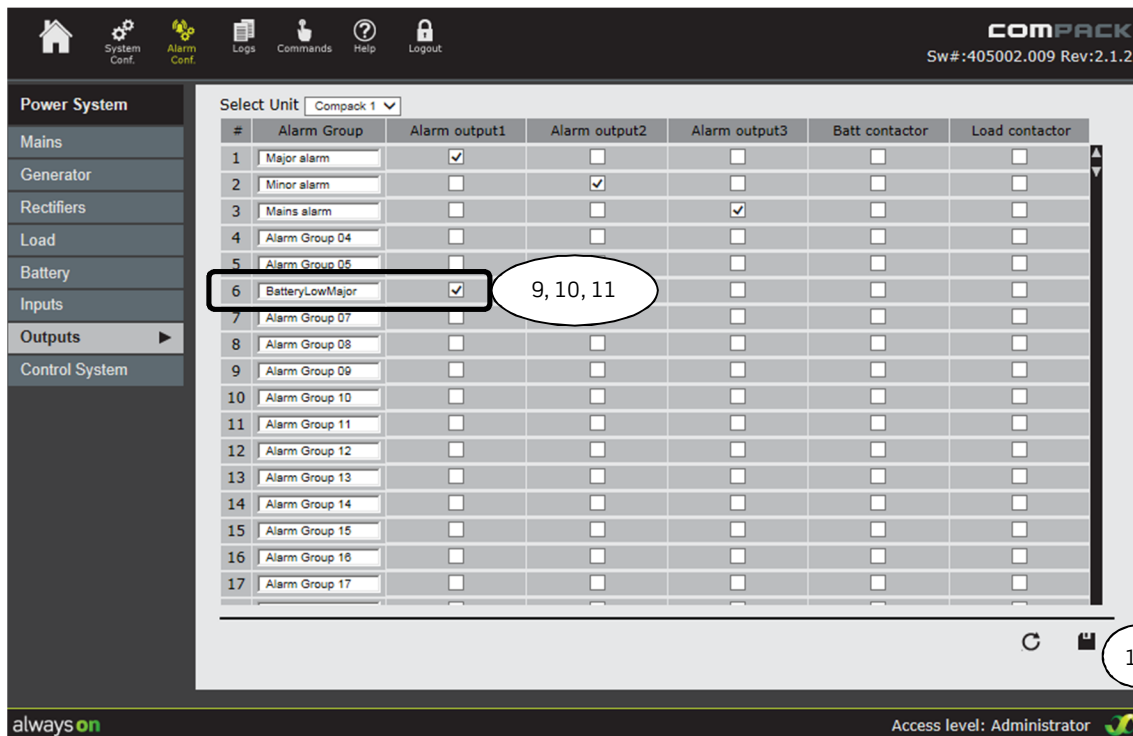

Figure 31 - Alarm Output Page (Compack Controller)
9. Locate the line of the alarm group assigned to the alarm event ("Alarm Group 06" in this example; see Figure 31).
10. Click in the field under "Alarm Group" and type in a distinctive name for this alarm group. In this example, the name is changed to "BatteryLowMajor" (line 6 in Figure 31).